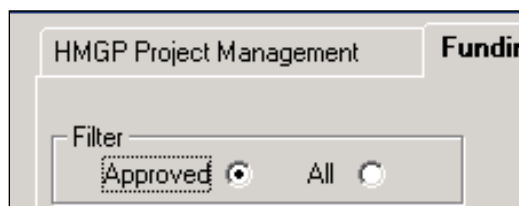

Figure 11-22: Approved Filter
16. If you wish to view Funding Activity information only for Approved projects, click inside the “Approved” radio button in the Filter field (Figure 11-22).